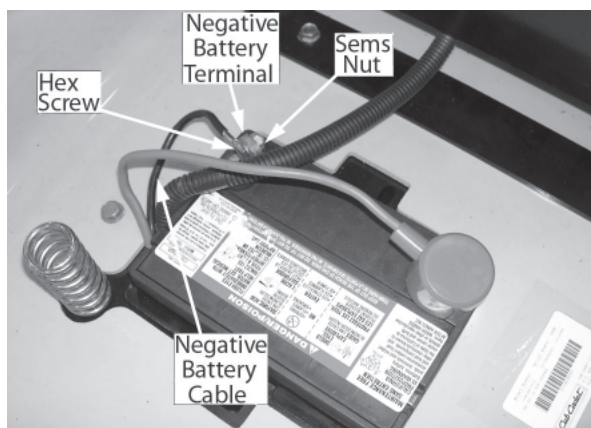

Figure 3-1
- Pull the protective cap, if present, off the negative battery terminal. Attach the negative cable (heavy black wire) to the negative battery terminal (-) with the bolt and sems nut. Refer to Figure 3-1.